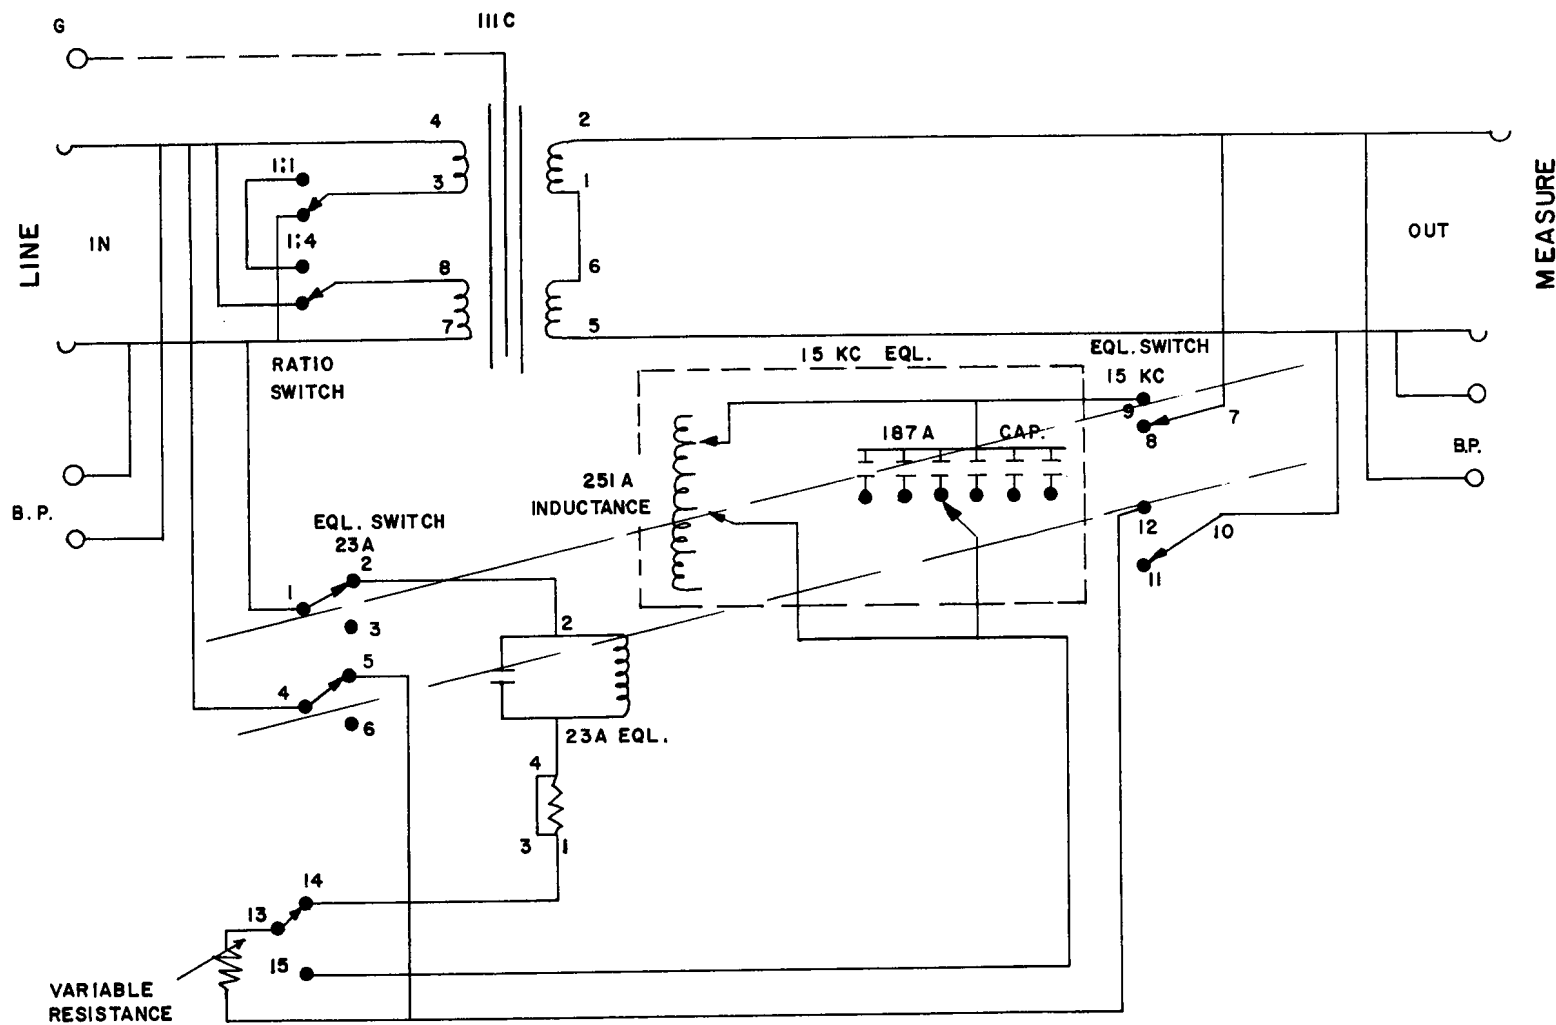

FIG. 13
9.04.4 Figure 13 is a simple schematic of the GB-731 Program Equalizer.